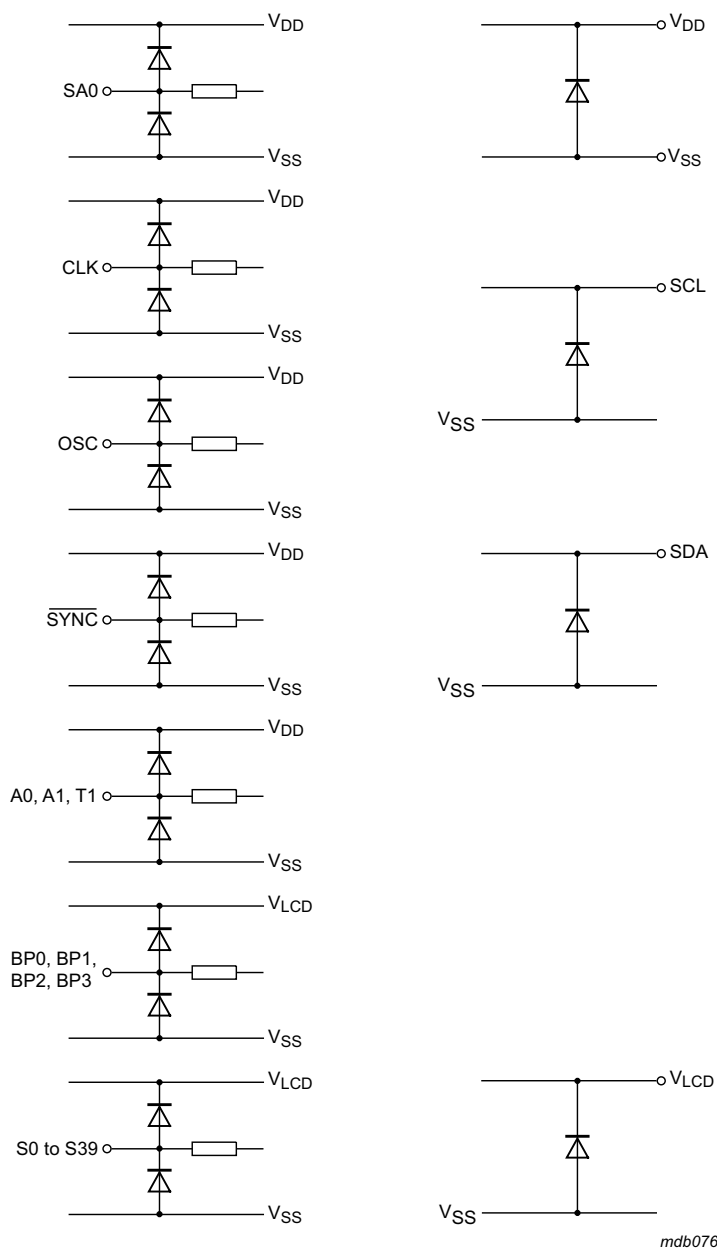

Fig 23. Device protection circuits
- [4] When tested, I²C pins SCL and SDA have no diode to V_{DD} and may be driven to the V_I limiting values given in Table 18 (see Figure 23 as well).